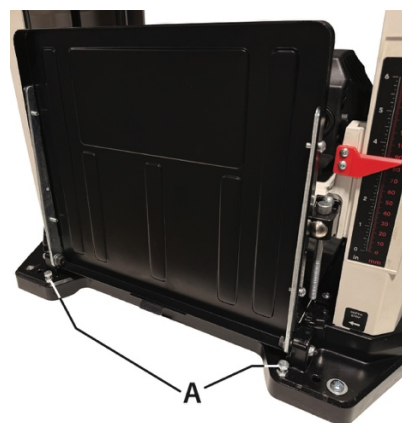

Figure 8-3
4. Loosen lock nut on both stop screws (A, Figure 8-3).
7. When infeed and outfeed tables are properly aligned, secure all stop screws with the lock nuts (A, Figure 8-3).